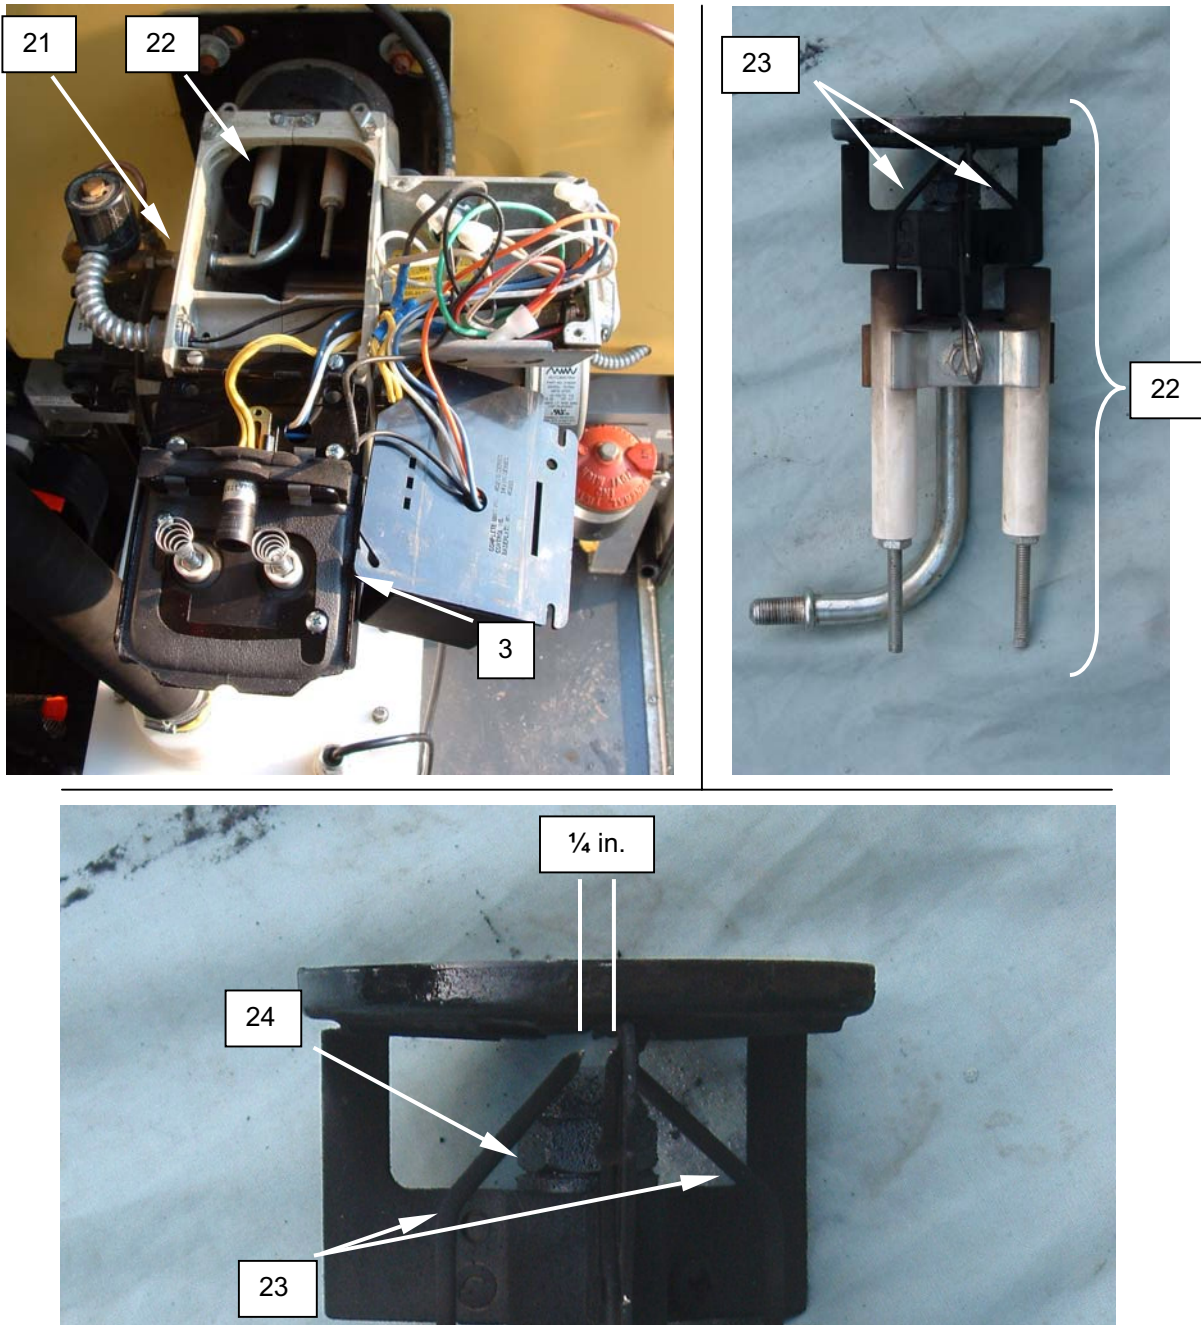

Figure 11. Adjust the Burner Electrodes.
2. Remove the screws retaining the transformer (**Figure 11, Item 3**) and swing the transformer up and out of the way.
3. Loosen the compression nut retaining the fuel solenoid (**Figure 11, Item 21**) to the nozzle assembly (**Figure 11, Item 22**).
4. Remove the locknut retaining the nozzle assembly (**Figure 11, Item 22**), and remove the nozzle assembly.
5. Loosen the screws retaining the electrodes (**Figure 11, Item 23**) to the nozzle assembly (**Figure 11, Item 22**), and position the electrodes approximately 1/4 inch apart, just above the nozzle (**Figure 11, Item 24**).
6. Tighten the screws retaining the electrodes (**Figure 11, Item 23**).
7. Install the nozzle assembly (**Figure 11, Item 22**) into the burner, and retain with locknut.
8. Connect the fuel solenoid (**Figure 11, Item 21**) to the nozzle assembly (**Figure 11, Item 22**), and tighten compression nut.
9. Swing transformer (**Figure 11, Item 3**) back into place and retain with screws.